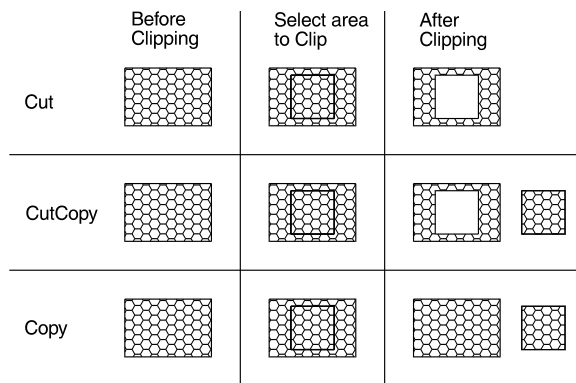

Figure 12.18: Different results from cutting, cutting and copying, and copying.
6. Toggle Boundry on to leave the outline of the boundary in your drawing. (See "After Clipping" for Cut and CutCopy in Figure 12.18 for an example of a boundary outline.)